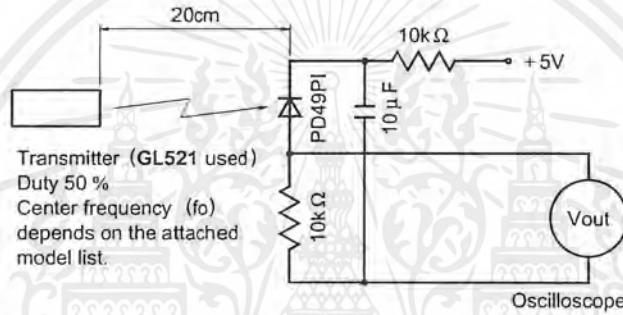
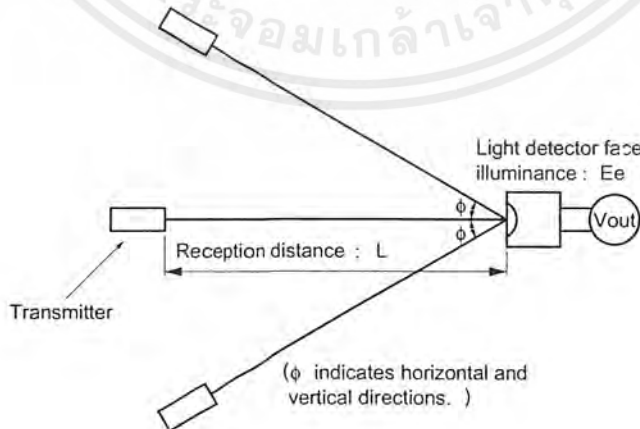

Fig. 1. Transmitter
Fig. 2. Standard optical system
*3 The burst wave as shown in the following figure shall be transmitted by the transmitter shown in Fig. 1.
Using the transmitter shown in Fig. 1, the output signal of the light detecting unit is good enough to meet the following items in the standard optical system in Fig. 2.
When $L=0.2$ to $8m$, $E_e < 10$ lx and $\phi = 0^\circ$ in Fig. 2, the output signal shall meet the electrical characteristics in the attached list.
When $L=0.2$ to $6m$, $E_e < 10$ lx and $\phi \leq 30^\circ$ in Fig. 2, the output signal shall meet the electrical characteristics in the attached list.
When $L=0.2$ to $4m$, $E_e \leq 300$ lx and $\phi = 0^\circ$ in Fig. 2, the output signal shall meet the electrical characteristics in the attached list.